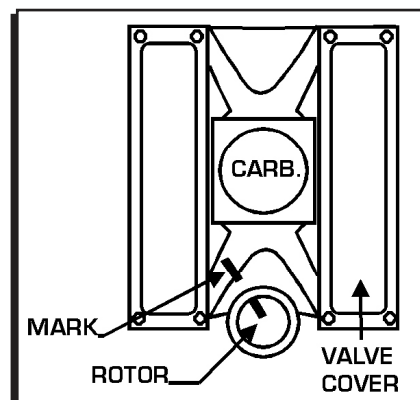

Figure 1 Marking the Rotor Location.
2. With the cap off, rotate the engine or until the rotor is aimed at a fixed point on the engine or firewall. Note this position by making a mark (Figure 1).